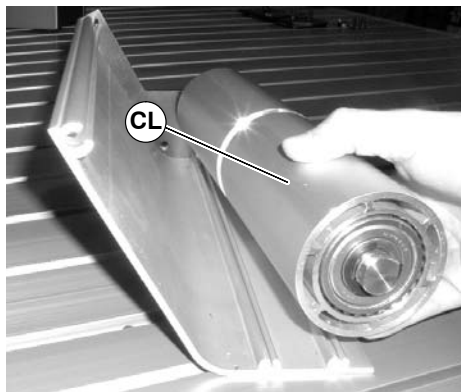

Figure 72
5. Slide the idler pulley assembly (CL of Figure 72) out of the idler guide side plate on the opposite side.